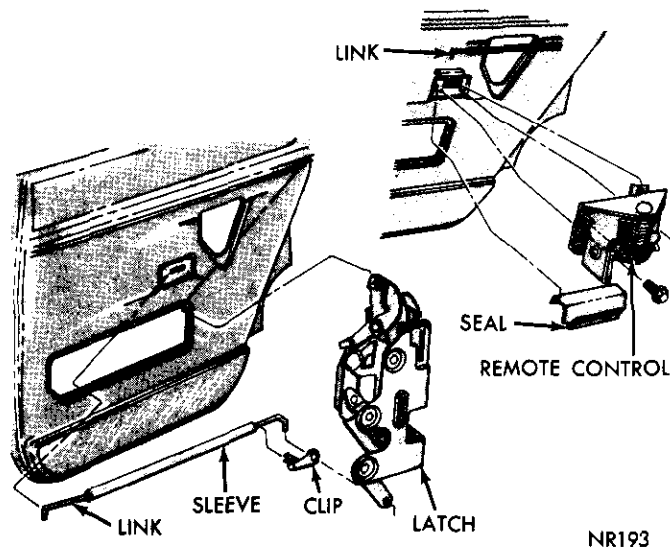

Fig. 28—Rear Door Remote Control and Latch
(1) Disconnect handle to lock link (Figs. 28 and 29). and from lock by pulling link outward.
(2) Disconnect locking lever rod (front door only) from lock.
(3) Disconnect lock control rod from lock.